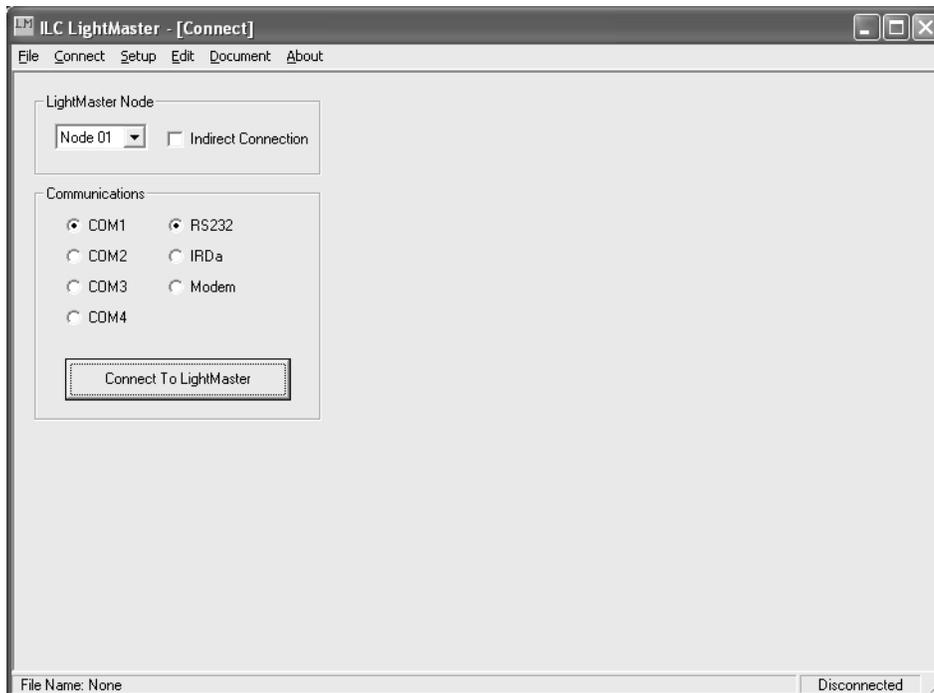

Figure 3-18, Connect Screen
2. When the Connect screen (See Figure 3-18) appears, point and click on the address pull down menu to select the Node Address of the LightMaster.